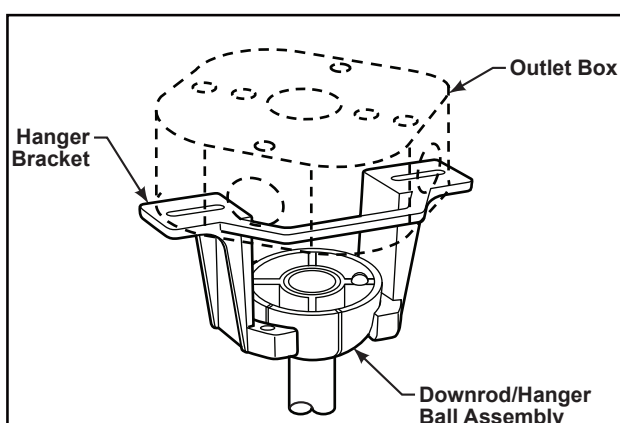

Figure 4
4. Slide downrod into the downrod support on top of the motor. Install the clevis pin by aligning the holes in the downrod support with holes in the downrod. Secure clevis pin with hairpin clip. Tighten the two set screws with nuts in the downrod support. (Figure 4)
- ☐ 2. Carefully lift the fan and seat the downrod/hanger ball assembly on the hanger bracket that was just attached to the outlet box. Be sure the groove in the ball is lined up with tab on the hanger bracket. (Figure 4)